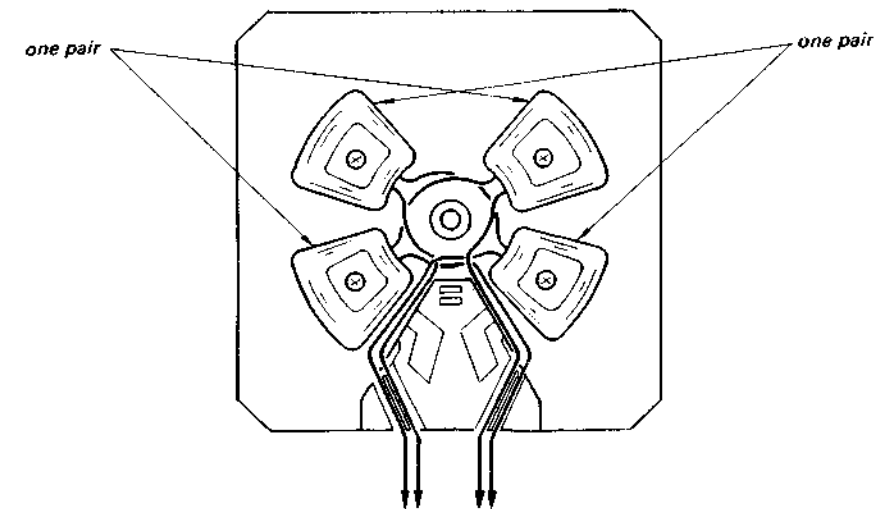
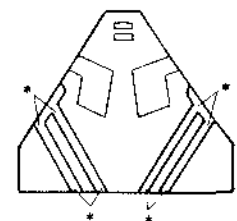

Fig. 2-8
Fig. 2-9
- c) Lay the leads of the coils as shown in Fig. 2-8 and fix the leads in the groove between the portions marked by * in Fig. 2-9.